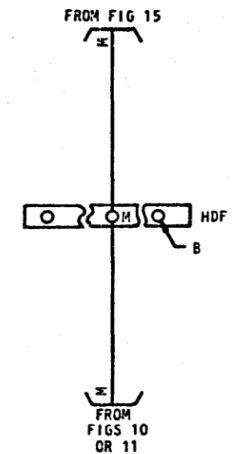

FIG 7
- 57- *M*, *N*, *P*, *R*, *S*, *T*, *U*, *V*, *W*, *X*, *Y* AND *Z* ARE SCREW TYPE OPTIONS AND OFFICE WIRING LIST RECORDS NEED NOT BE MAINTAINED. THE ADJUSTING OF THE OPTION SCREENS SHOULD BE DONE PER TABLE F. WIRING OPTIONS *N* AND *K* ARE SHOP WIRED AT (A) TERMINAL STRIP.
- 58- FIGURE 7 SHOULD BE USED WHEN A UNIVERSAL WIRING ARRANGEMENT IS DESIRED AT THE DIST FRAME.